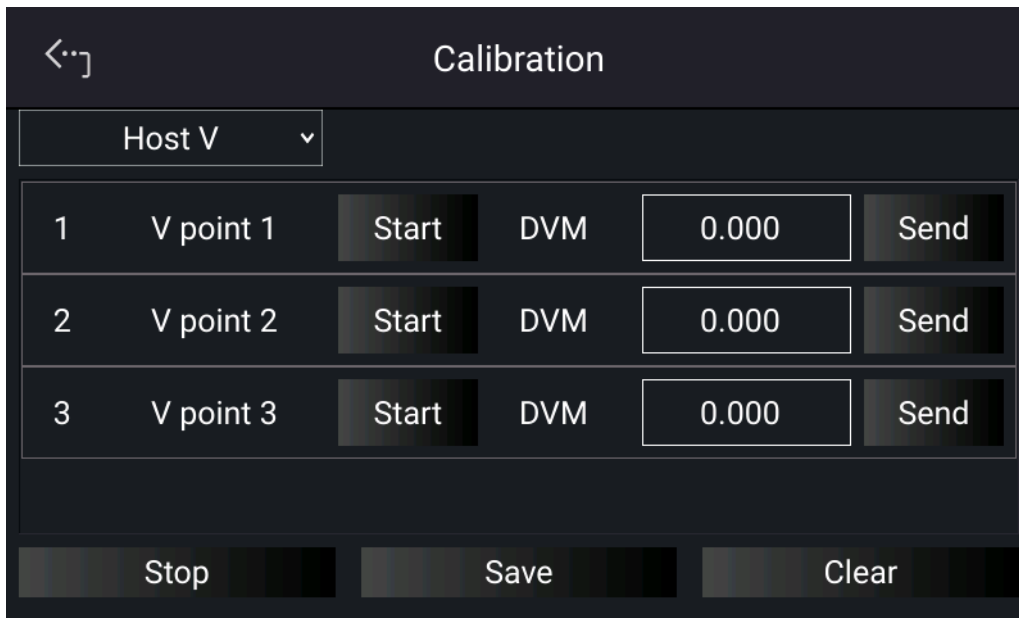

Figure 3-64
1. In Calibration page, tap “Host V” to list the voltage calibration items as shown in Figure 3-64.